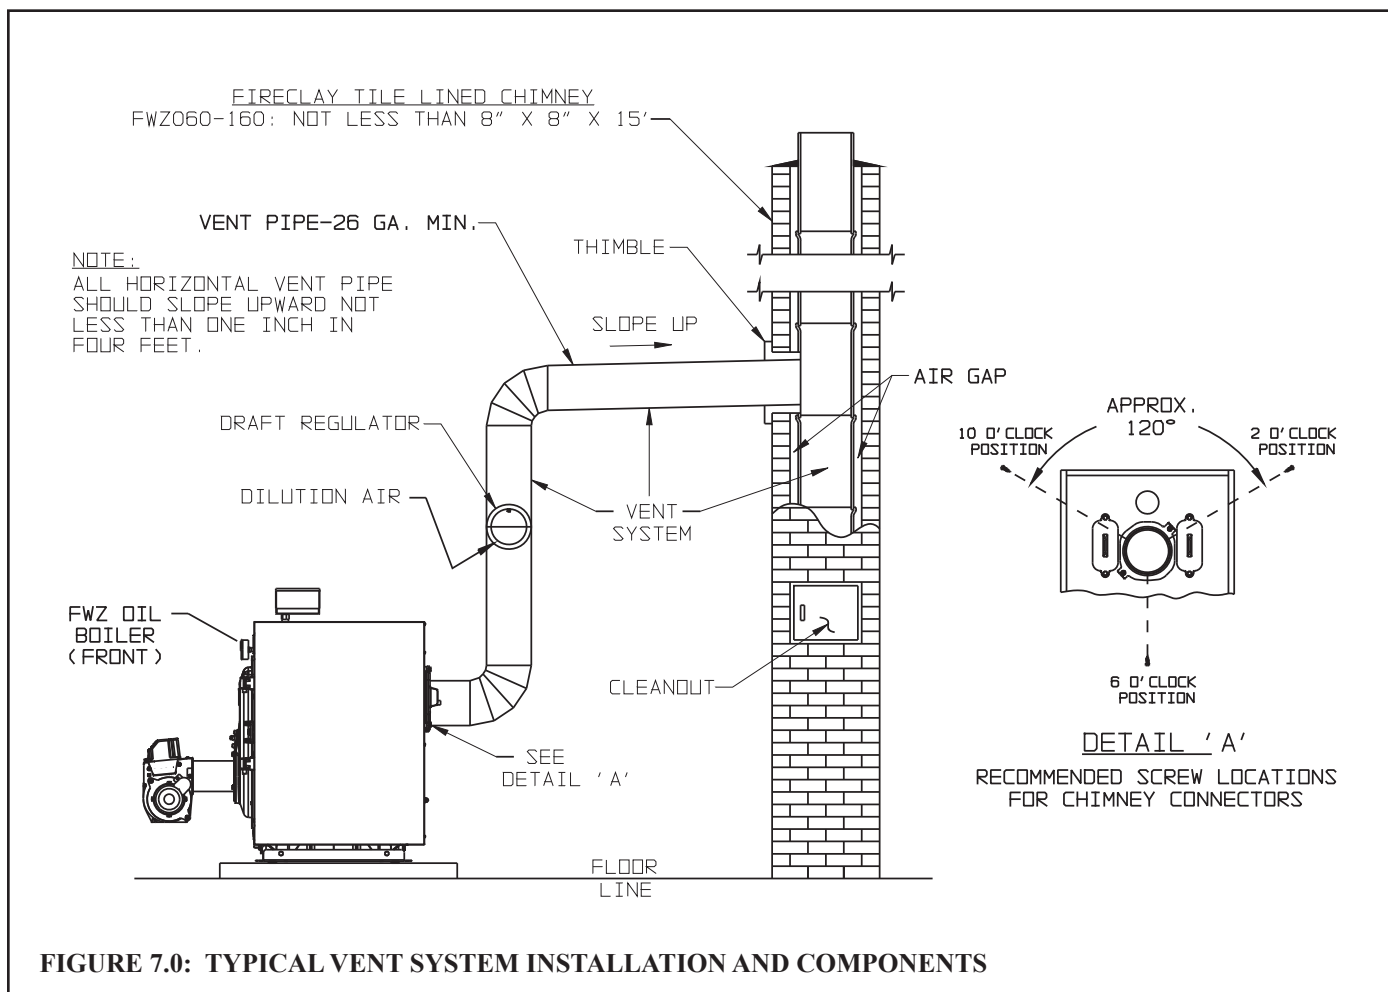

FIGURE 7.0: TYPICAL VENT SYSTEM INSTALLATION AND COMPONENTS
A typical vent system is illustrated in Figure 7.0. The components of the vent installation are the vent connector (breeching), barometric draft regulator, and chimney.
- 8) The vertical section of vent connector coming off the boiler should be as tall as possible, while still maintaining the proper clearance from the horizontal vent connector to combustibles and the proper pitch called for in (7) above.
- 12) Secure all joints in the vent connector system with sheet metal screws. This includes the joint between the vent connector and the boiler collar (see Figure 7.0, Detail 'A'), as well as the barometric draft regulator. Use at least three screws at each joint.